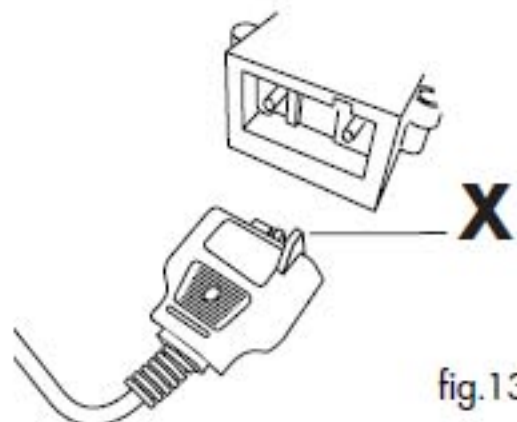

fig.13
First fit the magnetic connector to the appliance, as seen in Figure 13, making sure that the protruding part of the connector (X) is correctly inserted in the corresponding slot on the appliance, and then plug the cable into the power outlet.
If the magnetic connector does not remain in place, check that it has been inserted correctly, see Figure 13. If the problem persists, contact an authorised service centre.